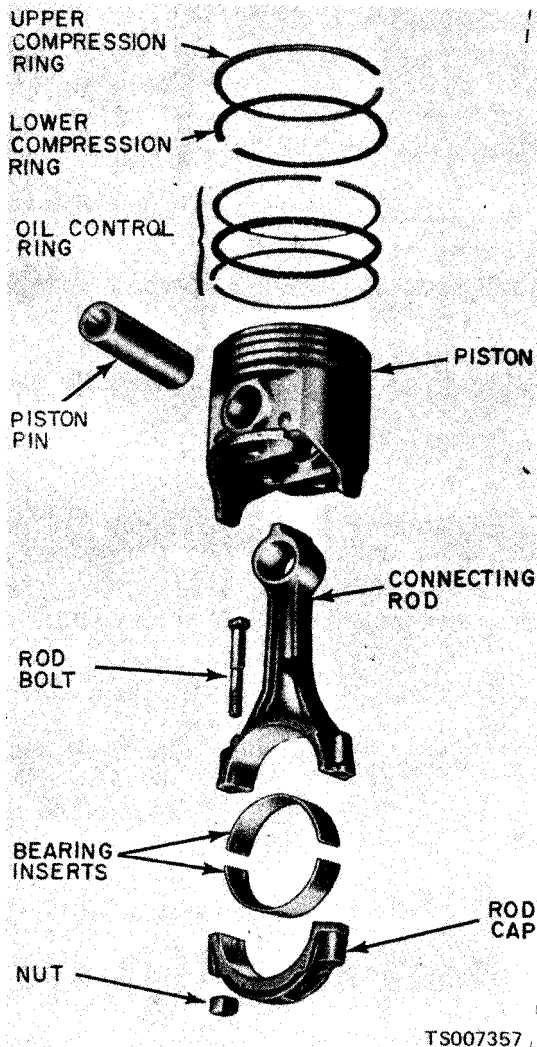

Figure 6-28. Piston and Connecting Rod Assembly.
a. *General.* The piston, connecting rod and related parts are shown in figure 6-28. Check the fit of a new piston in the cylinder bore before assembling the piston and piston pin to the connecting rod, following the procedures in subparagraph b. The piston pin bore of a connecting rod and the diameter of the piston pin must be within specifications.